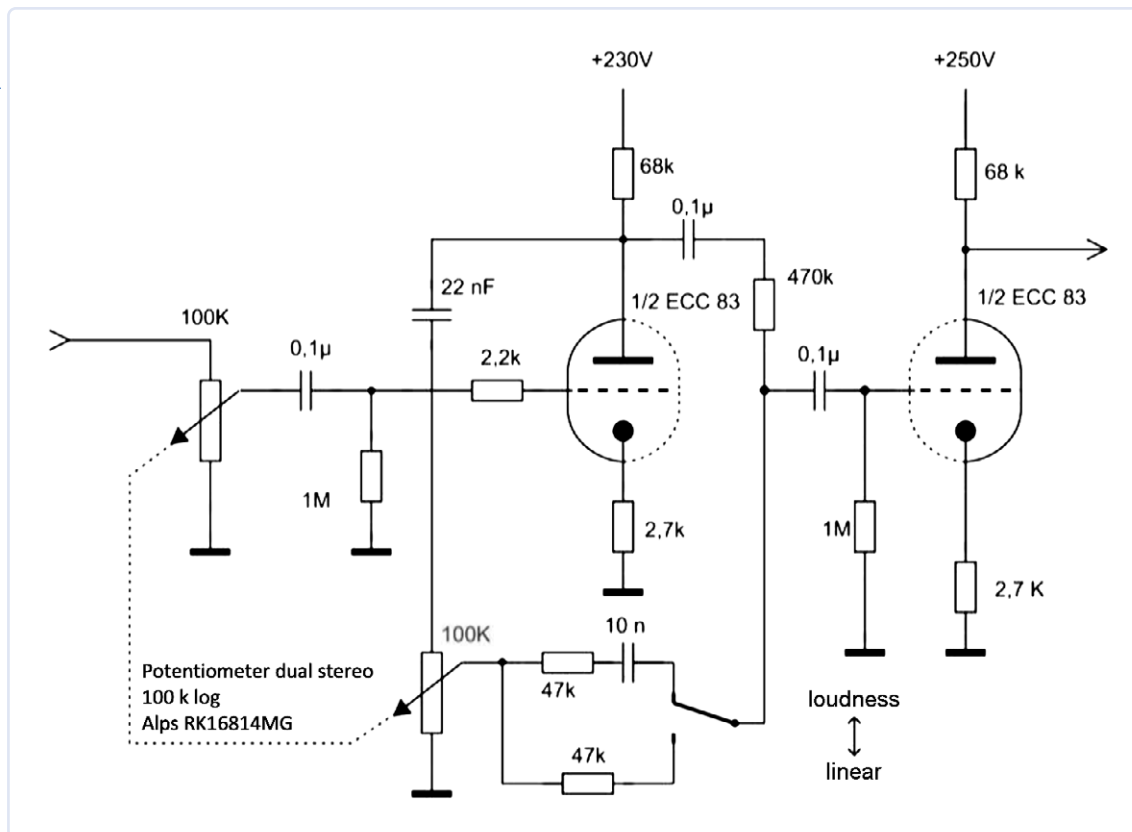

Figure 5: Circuit for aurally compensated loudness control using an Alps quad potentiometer.
**Figure 5** shows the circuit I built using the Alps RK16814MG potentiometer. Although this is a motor-driven potentiometer, the motor can be removed if needed so the potentiometer can be operated manually. To clarify the effect of aurally compensated loudness control, I measured the frequency responses at various settings,